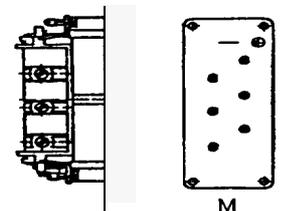

Figure 37 DIN male connector.
- 134 Connection via an industrial Harting 6HSB connector in accordance with DIN 41640. 35 A, 600 V, 6p + PE (see Figure 37).